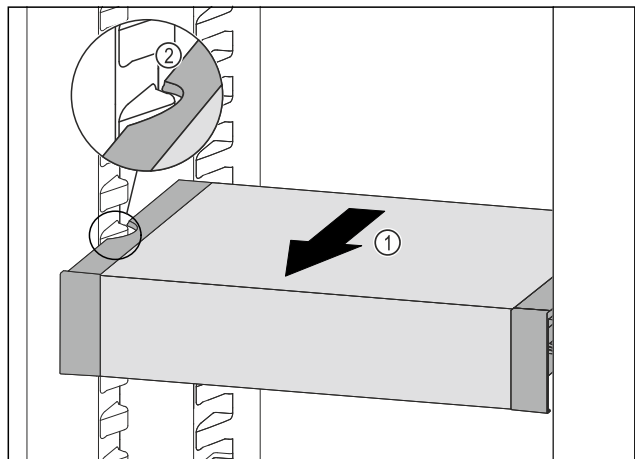

Fig. 116
- ▶ Pull VarioSafe forwards *Fig. 116 (1)* until the recesses in the side of the VarioSafe are at the level of the support rib in the fridge section. *Fig. 116 (2)*